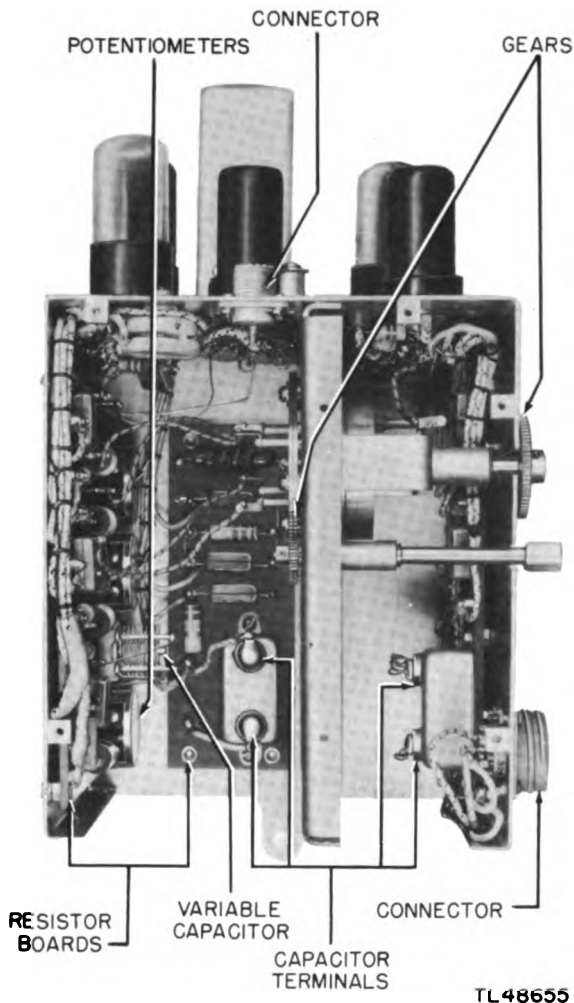

Figure 4-39. Phase shifter, internal view.
(3) Remove the L-shaped cover from the phase-shifter unit by removing the assembly screws around the side and the supporting screws in the center.
b. Maintenance Procedure (fig. 4-39).
(1) The tubes for dirt and loose mounting (par. 2-2).
(2) The connectors for loose mounting and corrosion (par. 2-9).
(3) The gears in the phase-shifter unit for damage, dirt, and corrosion. Clean with a brush. Do not lubricate the gears. Check the mesh of the phase shifter and range unit gearing.
(4) The potentiometers for loose connections, improper mounting, and corrosion (par. 2-6).
(5) The capacitors for leaking of dielectric and for bulging of case. Inspect the capacitor terminals for corrosion and poor connection. Remove dirt from the plates of the variable capacitor with a brush (par. 2-3).
(6) The resistors for blistering, cracking, and discoloration (par. 2-4).
(7) All wiring for frayed insulation and loose lacing. Check all electrical con-